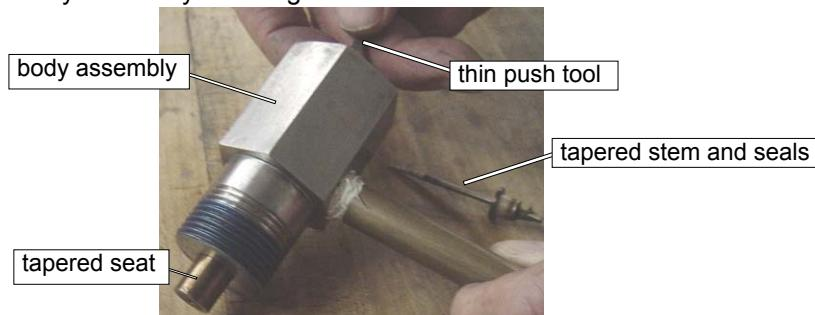

Figure 7-10
4. Using a thin diameter tool such as a small Allen wrench, push out the tapered seat and erosion shield from the body assembly. See Figure 7-10: